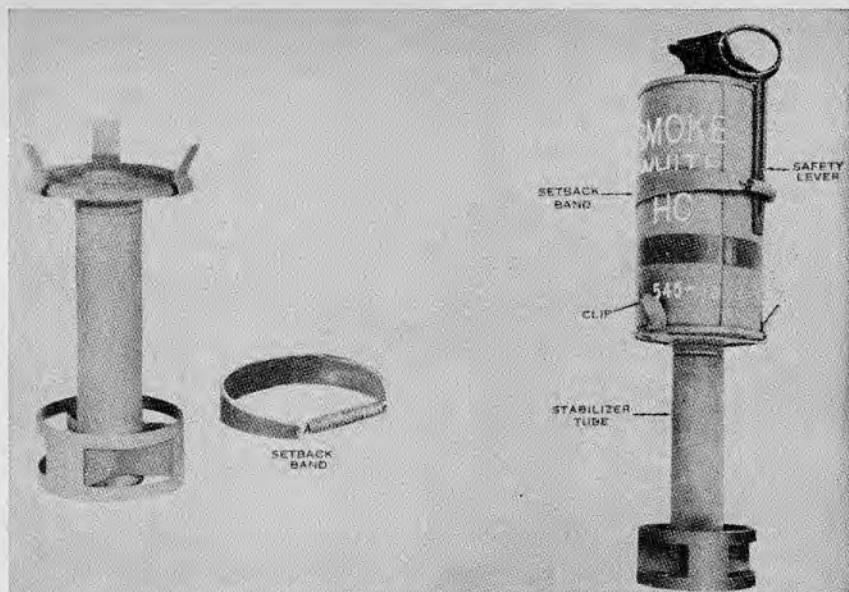

Figure 28.10. M2A1 chemical grenade projection adapter.
(1) M19A1 WP rifle grenade consists of a body, stabilizer tube, and fin assembly made of sheet metal. It weighs 1½ pounds and has 8½ ounces of white phosphorus filler. It is painted gray with yellow markings and has a safety pin in the stabilizer tube. It is fired in the same manner as other rifle grenades and explodes on impact, throwing burning particles of white phosphorus over an area about 20 yards in diameter. A dense white cloud of smoke is generated. The maximum range is about 200 yards. The M19A1 WP rifle grenade is excellent for producing casualties, screening purposes, and starting fires.
(2) Chemical hand grenades such as the M7A1 CN and the M6A1 CN-DM, the AN-M14 incendiary grenade, and pyrotechnic smoke hand grenades may all be projected by using the M2A1 chemical grenade adapter. (See Figure 28.10) This adapter is similar in construction and use to the M1A2 grenade projection adapter.